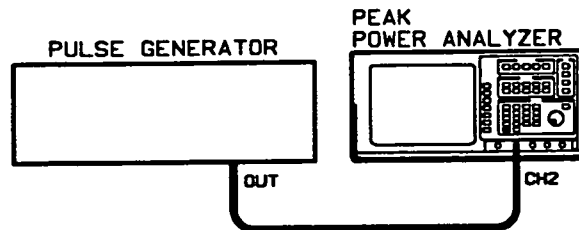

Figure 1-2. Checking Channel 2 and Channel 3 Risetime Equipment Setup
1. Set up the equipment as shown in Figure 1-2.
- Press the **BLUE** key, and then the **RISETIME (4)** key.